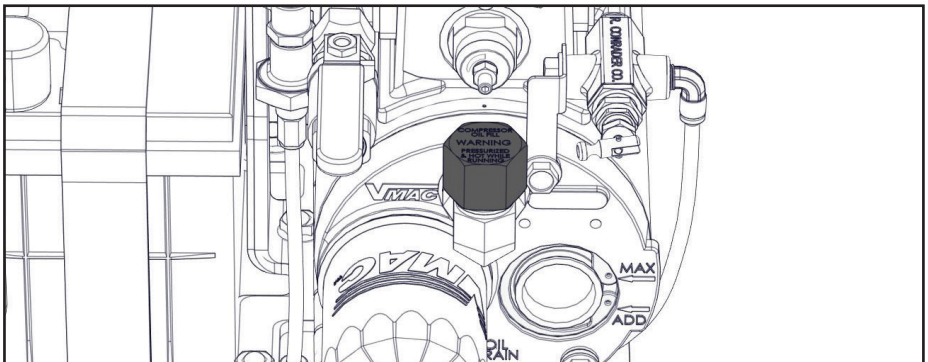

Figure 39 — Compressor oil fill
- Remove the filler cap on the WHASP Tank. Fill the WHASP Tank with VMAC compressor oil until it reaches the "MAX" mark. The air compressor system holds approximately 4 L (1 USG) of oil (Figure 39).